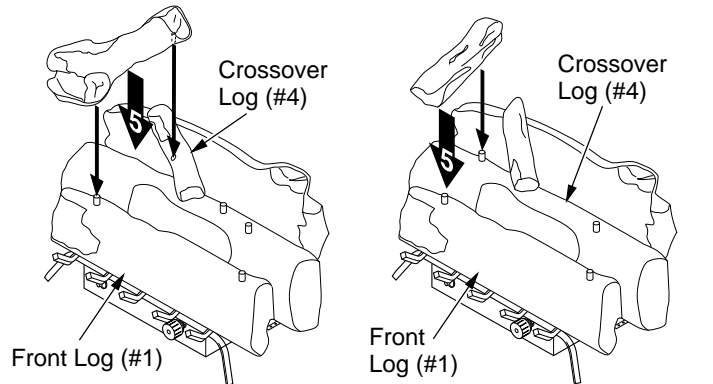

Figure 31 - Installing Crossover Log (#5) (CCL3930NTA Shown) Figure 32 - Installing Crossover Log (#5) (CCL3018NT and CCL3018N Only)
5. **For CCL3924NT and CCL3930NTA Only:** Locate pin and hole on the bottom of crossover log (#5). Slide the pin into the hole located in crossover log (#4). Slide the hole onto the pin on front log (#1). See Figure 31.